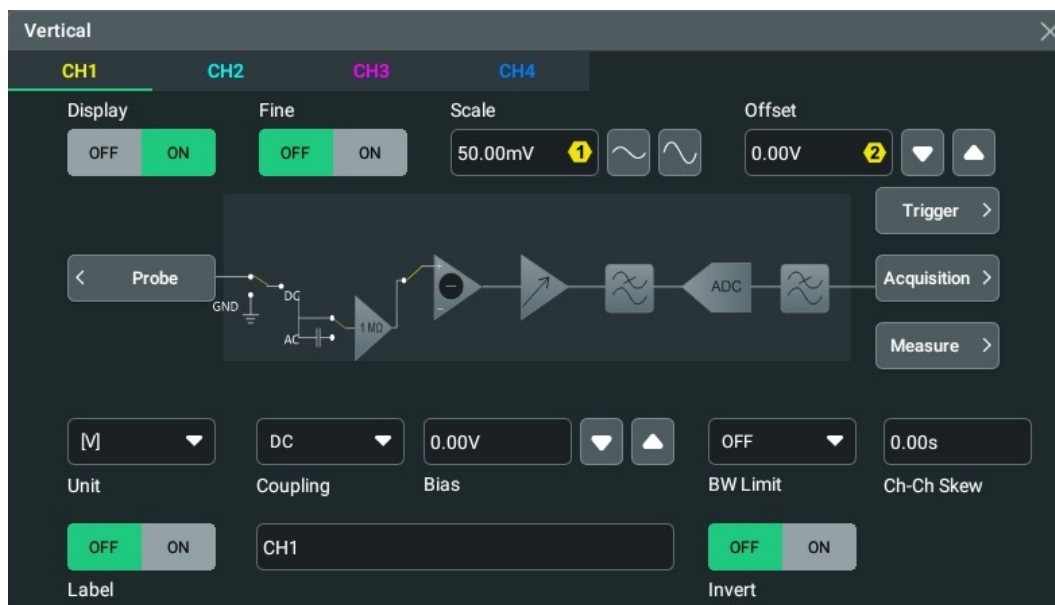

Figure 5.1 Vertical Menu
- In *Figure 5.1*, select the CH1 tab. Click or tap the **Display** on/off switch to turn CH1 on or off.
- In *Figure 5.1*, set **Display** to OFF to disable CH1.